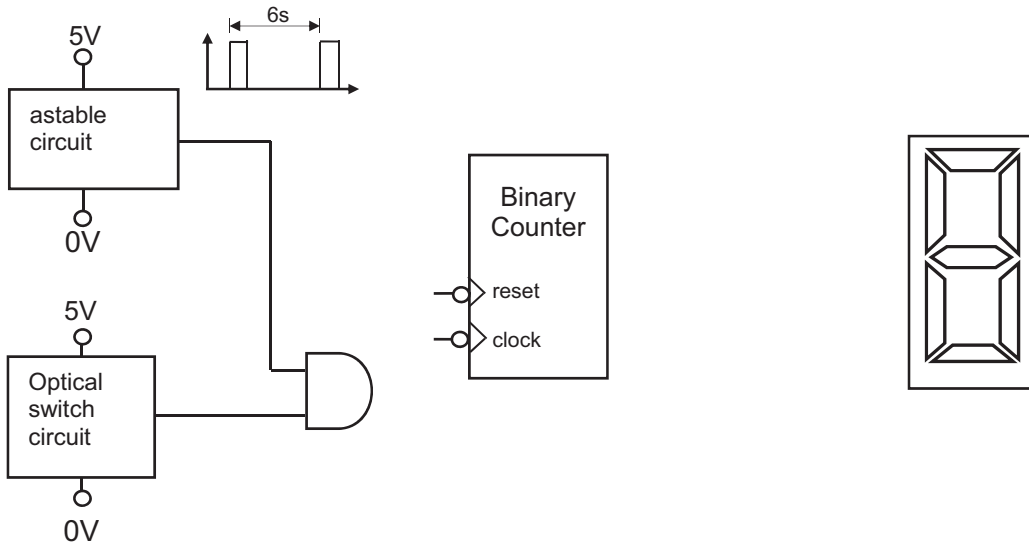

Fig. 11
- (ii) An incomplete circuit diagram is shown in **Fig. 11**. Complete the circuit diagram, adding any missing components and power supply connections, to enable the flow rate of the liquid in **Fig. 8** to be displayed on a single 7 segment display (common cathode). The flow rate should be continuously counted for 1 second and then displayed for 5 seconds before being reset. Assume that a series of logic pulses is generated from the rotating disc in **Fig. 8** and that an appropriate astable waveform as shown is available.